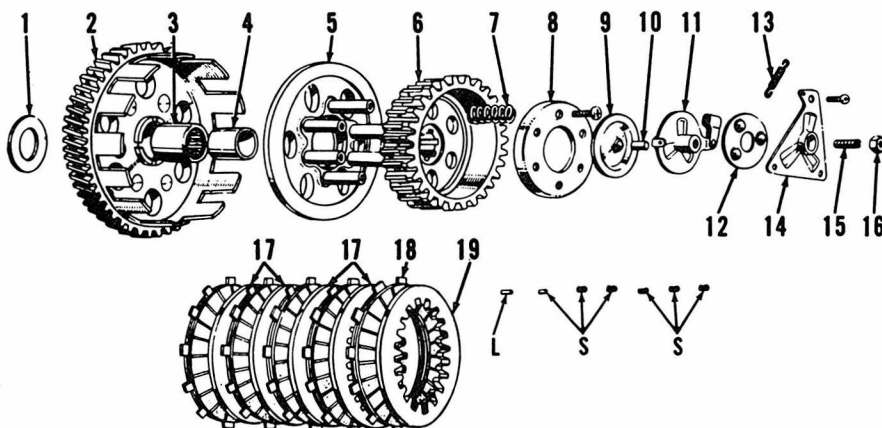

Fig. K3-17—Exploded view of clutch assembly. The clutch adjusting screw (15) is also shown in Fig. K3-14.
**CLUTCH.** The clutch can be removed after removing the right side carburetor and clutch cover. Refer to Fig. K3-17 and the following specification data.